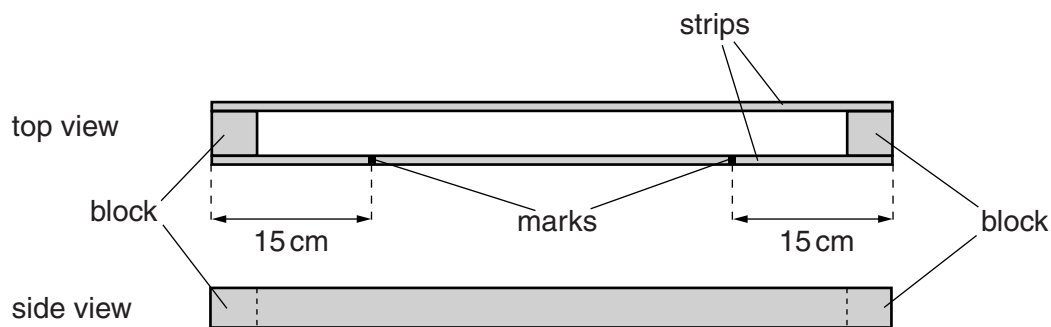

Fig. 2.2
- 2 Securely fix the two wooden strips and the wooden blocks together, as shown in Fig. 2.2. Make an ink mark 15 cm from each end of one of the wooden strips.